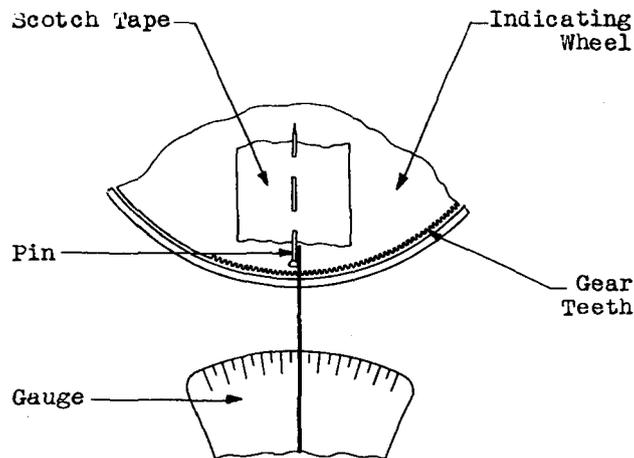

Fig. 2
2.05 Condenser Torque: Fig. 2 - With the gears disengaged, the force required at the periphery of the indicating wheel to rotate the condenser shall be as follows. The maximum reading obtained shall be noted since it is required in connection with checking requirement 2.07.